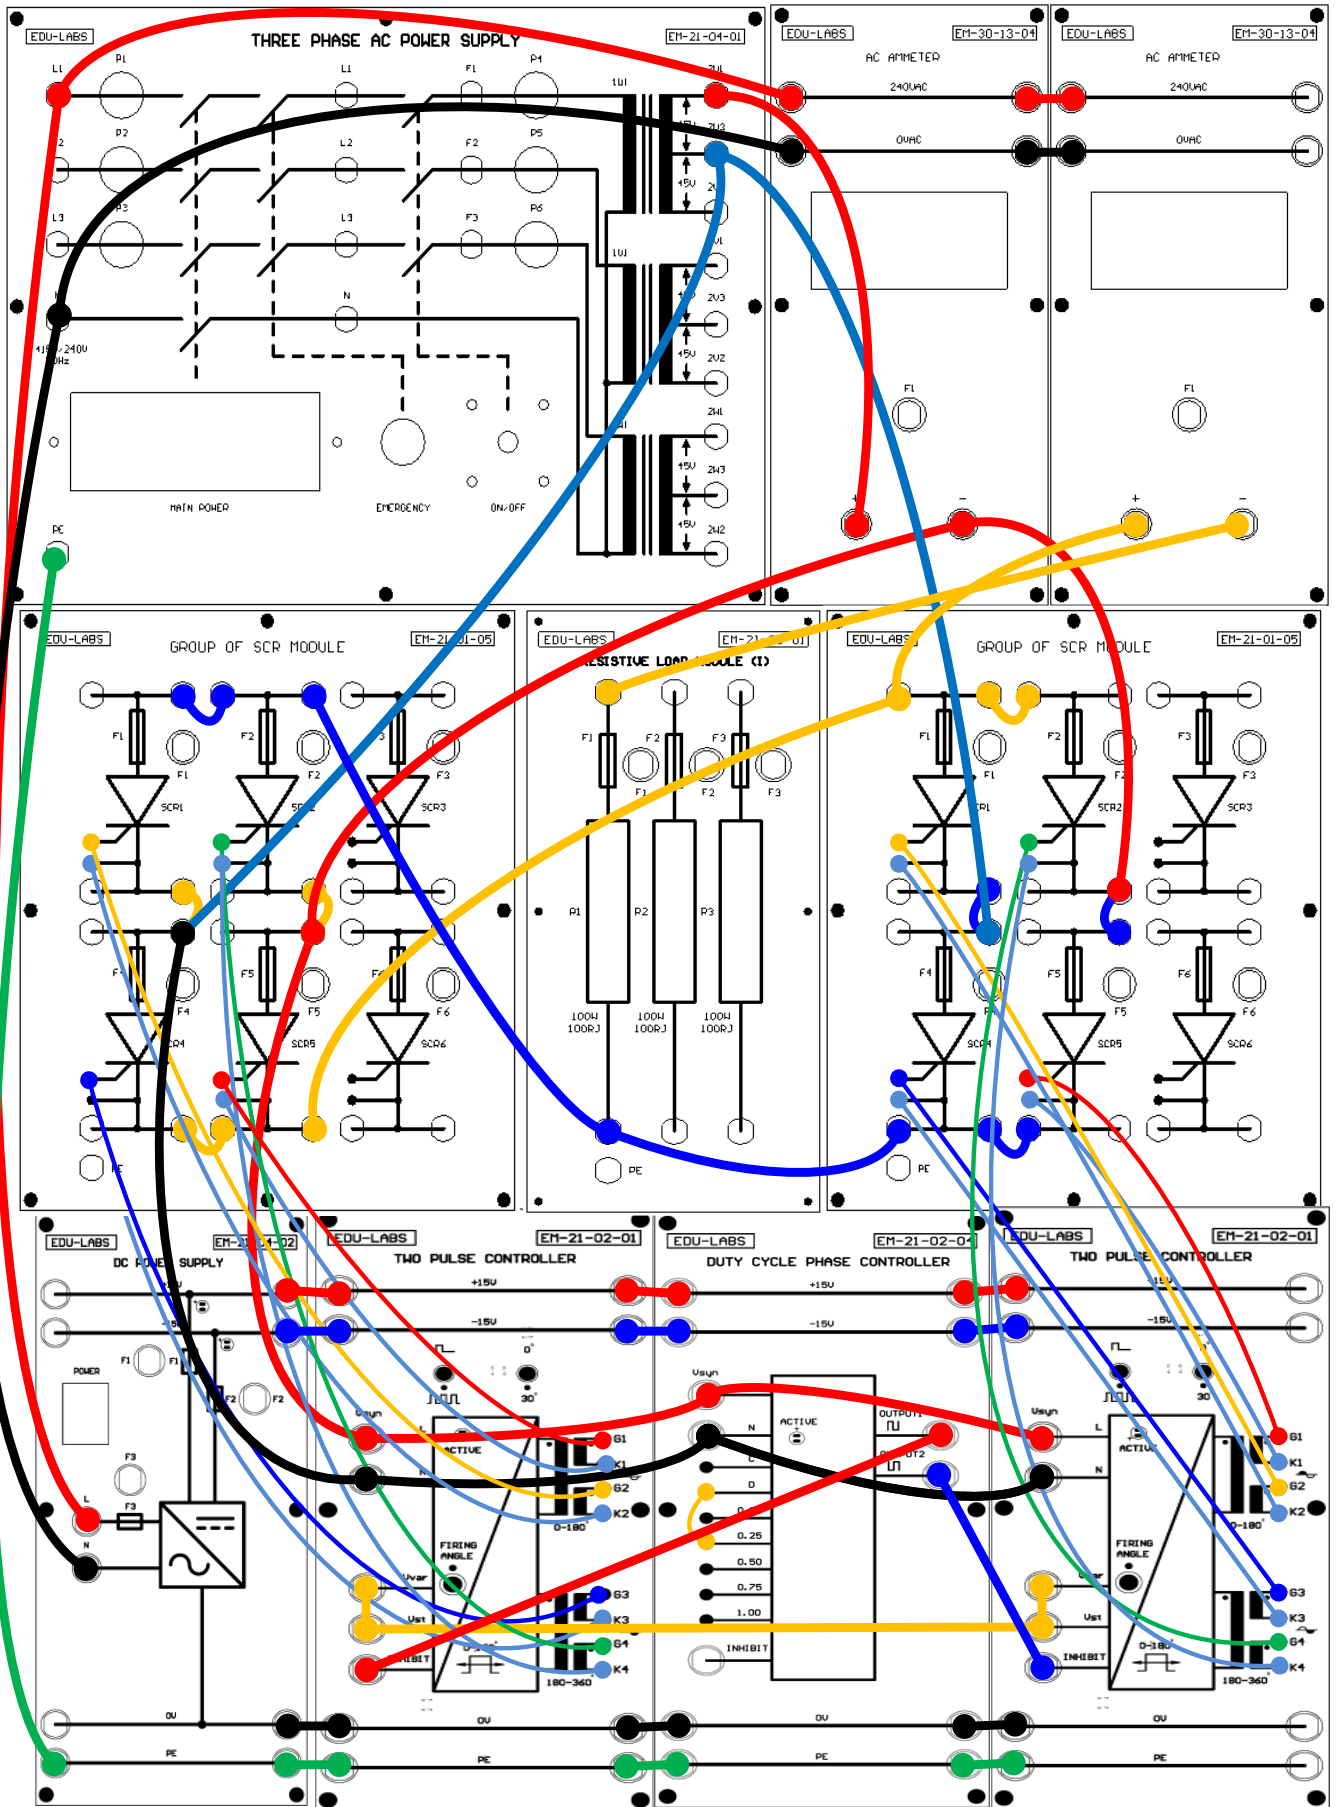

Figure 25.1 Current diagram for measure the output voltage
1. Construct the circuit according to current diagram Figure 25.1.